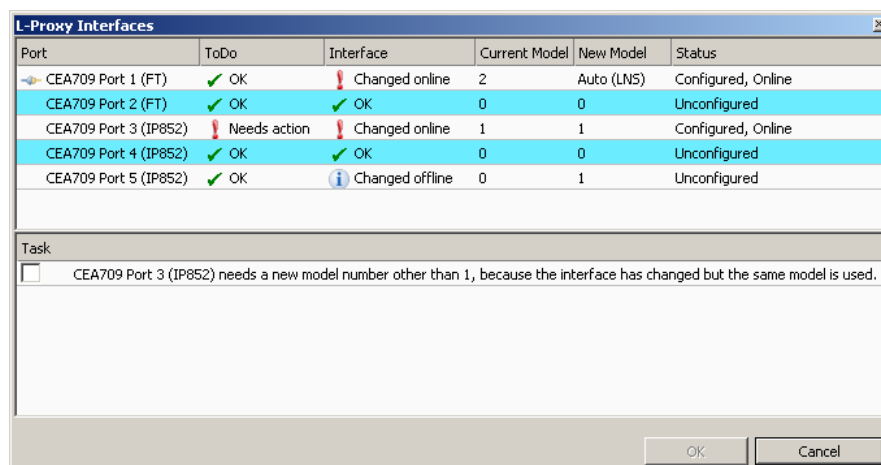

Figure 112: Model Number Dialog in the L-Proxy Configurator
2. If the static NV interface has been changed, a new model number for the L-Proxy needs to be selected. This is necessary, as the static network interface of the L-Proxy changes on the CEA-709 network. The L-Proxy Configurator opens a dialog to display the interfaces and needed updates as shown in Figure 112.